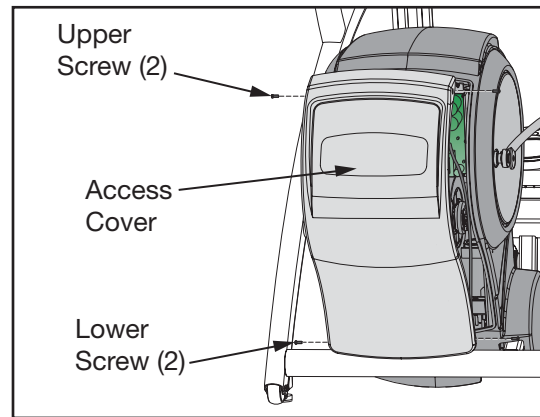

Figure 2
- A. Using a Phillips screwdriver, remove the two lower screws (one screw on each side), securing the access cover. See Figure 2.
- A. While being sure not pinch any cables, hold the access cover in place. See Figure 2.